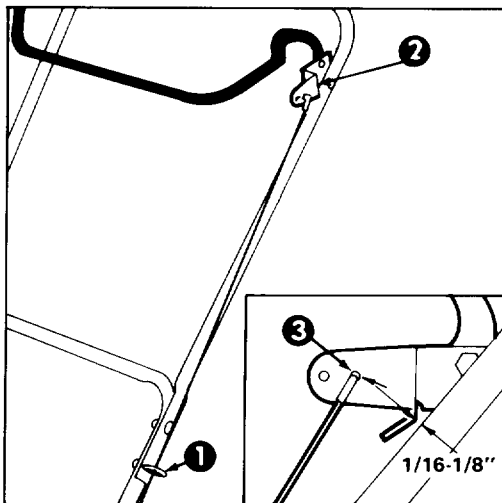

Figure 9
### ADJUSTING CONTROL BAR (Fig. 9&10)
2. CHECK ADJUSTMENT-(Fig. 9) — Move control bar back toward handle until slack in cable is removed. Gap between control bar bracket and handle should be approximately 1/16-1/8". If cable is too loose or too tight proceed to step 3 for adjustment procedure.